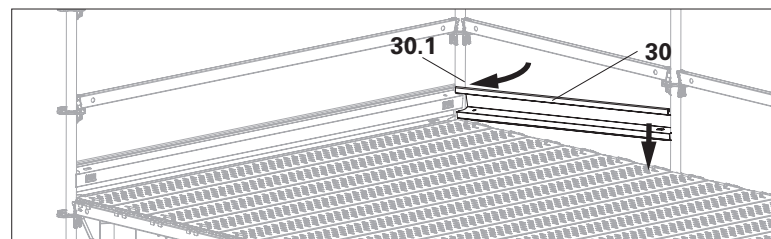

Fig. A5.04a
3. Insert Toe Board UPY (30) from the outside-left first of all using the large tube cut-out (30.1). (Fig. A5.04a)